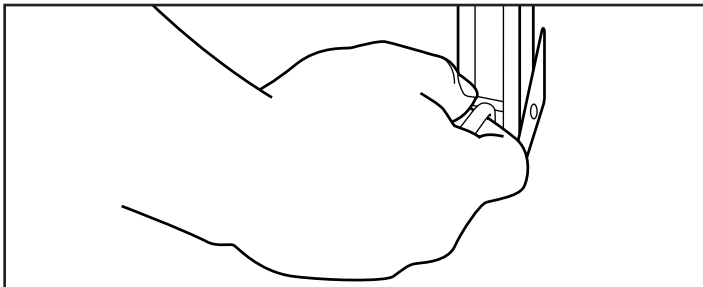

Fig.12
1. Pull up the stakes from the end of the Ground Support assembly (**Fig.12**).